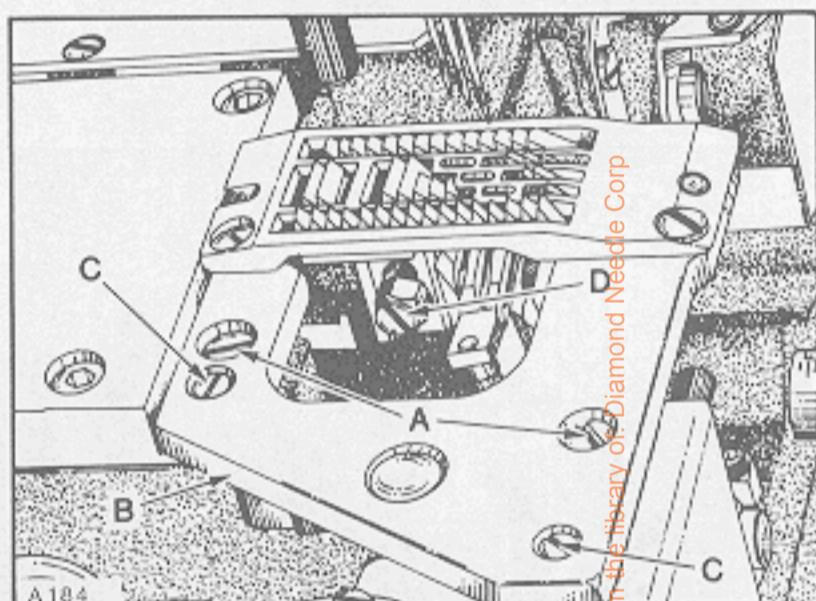
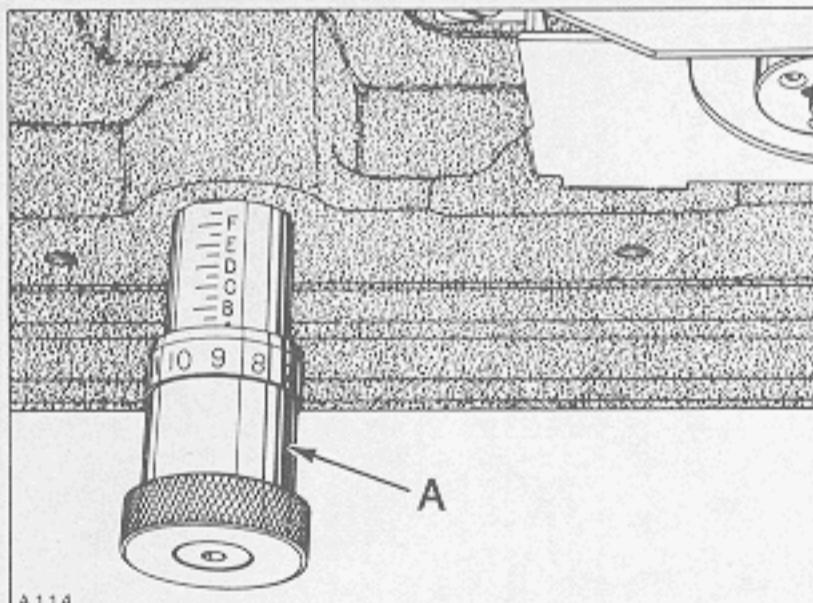
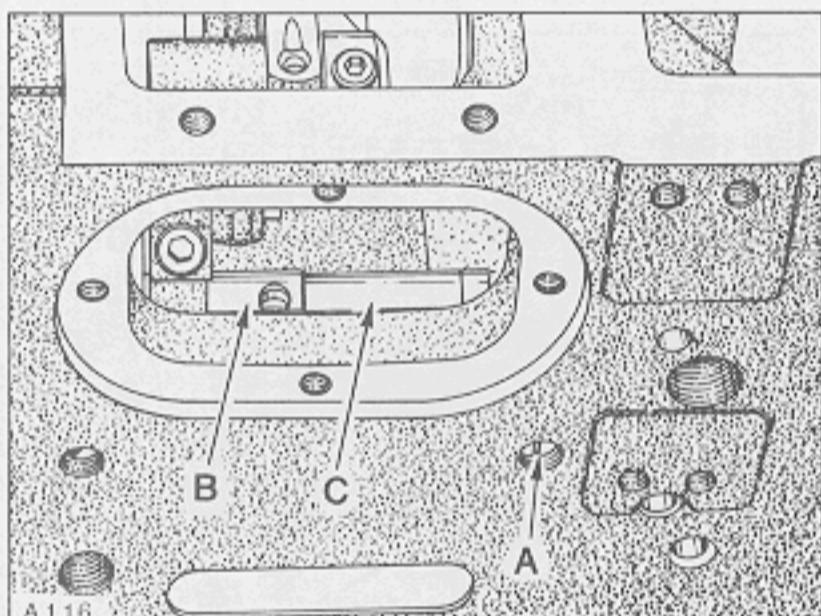
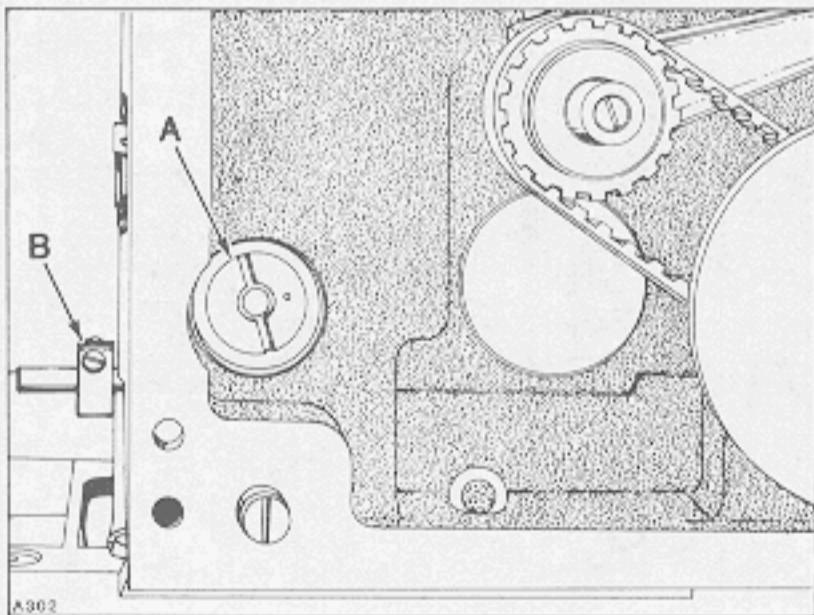

Fig.15
Fig.16
Fig.18
Fig.19
Feed dog should be centered in throat plate with equal clearance on both sides and ends. Feed dog should be level with and parallel to the top of throat plate as it begins to rise. At highest point of travel, feed dog teeth should extend the depth of a full tooth, or approximately 3/64 inch (1.2mm) above throat plate. MINOR (right to left) adjustments can be made by loosening two screws (A, Fig. 15) in throat plate support (B). Loosen two screws (C) securing two locating ferrules which allow movement to align throat plate support. Reposition slightly as required, considering both needle hole slots and feed dog slots. Tighten screws (C) first, then screws (A). Front to rear adjustment can be made by turning stitch regulating knob (A, Fig. 16) counterclockwise to obtain LONGEST stitch length. Remove rear feed chamber cover which is secured with four screws.
Feed dog can be leveled or tilted by loosening screw (A, Fig. 18) and rotate feed rocker tilting shaft (A, Fig. 19) slightly as required. Punch mark on shaft must be facing operator. Check parallelism of feed dog by placing throat plate in position. Before tightening screw (A, Fig. 18), make sure to have approximately .002 inch (.051mm) clearance between feed rocker (B) and spacer sleeve (C).
With feed travel set to desired stitch length, set feed dog height as specified by loosening mounting screw (D, Fig. 15) to position as required. Feed dog supporting screw is located in the feed dog holder, adjust as required to support feed dog before tightening screw (D).
Stitch length is changed by turning stitch regulating knob (A, Fig. 16) clockwise to shorten the stitch or counterclockwise to lengthen the stitch. Recheck front to rear clearance under "FEED DOG SETTINGS" whenever stitch length is changed. Stop collar (B, Fig. 19) at rear of machine attached to stitch regulating knob shaft can be set to prevent stitch length regulating knob (A, Fig. 16) from accidentally being turned beyond the desired stitch length.